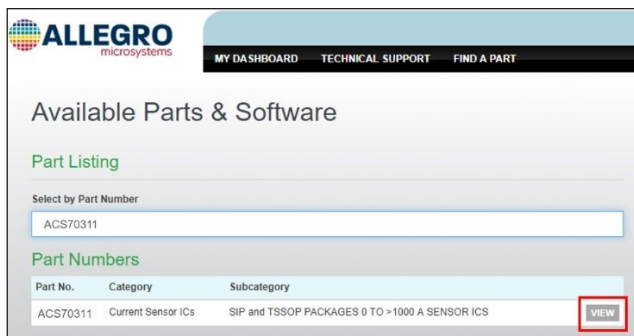

Figure 5: “View” next to “ACS70311” search result
6. Click “View” next to the ACS70311 search result as shown highlighted in Figure 5.